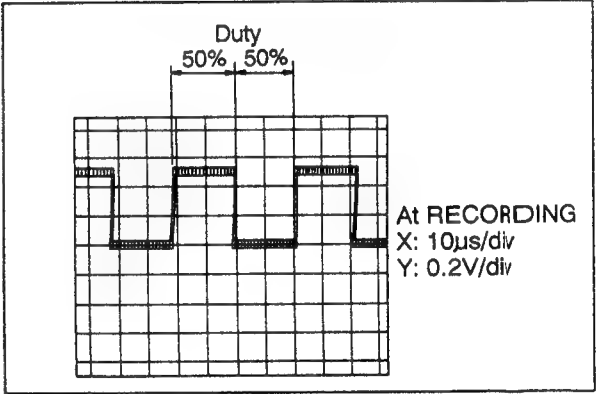

Fig. 3
2. Load a DCC blank tape (RFKZ0033) into the unit under test and put the unit in REC mode. Verify that a continuous 47 Hz square wave with a 50 percent duty ratio is observed on the scope (see Fig. 3). This is the normal result. Also verify that the same waveform is observed when a prerecorded ACC tape is played.